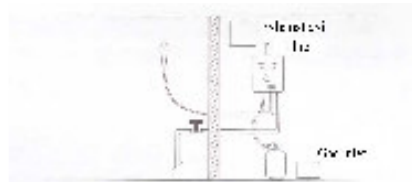

Fig. 3
- Do not install the water heater in bedroom, basement, bathroom, kitchen or rooms with poor ventilation. The room for installation shall be well ventilated and above 6m² in area (212 Cubic Feet). A ventilation hole as well as an exhaust hole must be drilled in the wall for proper ventilation purposes. The exhaust flue shall be installed above the water heater, and the ventilation hole shall be at a level lower than the water heater. (Fig.3)